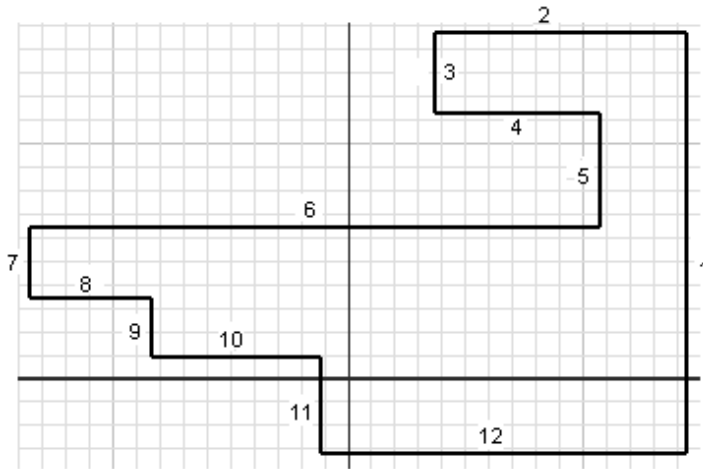

Figure 3-50 Lines numbered in the sketch
- Start a new metric standard part file and draw the initial sketch by using the **Line** tool, refer to Figure 3-50.
- Draw the initial sketch, as shown in Figure 3-50, using the **Line** tool. The lines in the sketch are numbered for your reference.